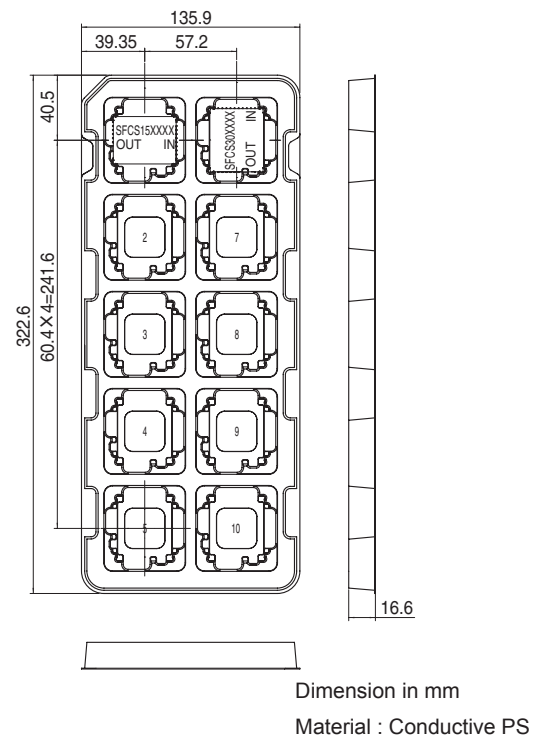

Fig.9.4 Delivery package information(SFCS15/SFCS30)
■ These are packed in a tray (Fig.9.4).